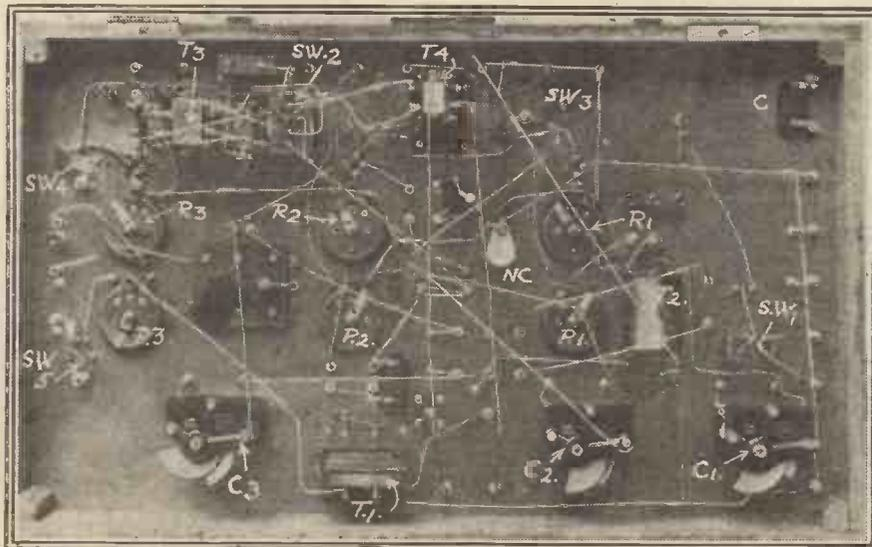

Fig. 7. A photograph of the interior of the set showing the disposition of the components and connections.
When the various components have been mounted, the wiring should be proceeded with. Nothing less than No. 18 S.W.G. should be used. The writer's set was wired with No. 14 S.W.G. in some parts, while No. 16 S.W.G. was used in others. Round section wire was used throughout. The L.T. circuits should be wired up first, the wiring being run close to the panel. When the rheostats, potentiometers, and filament legs of valve holders have been wired, then commence with the aerial circuit. Looking at Fig. 7, this is the right-hand side of the photo.
The usual rules about keeping all grid and plate leads as short as possible, and well spaced from each other, should be adhered to. The "backing piece" of thick ebonite which can be seen in Fig. 7 (underneath the crystal detector), situated centrally between R2, R3, P2, and P3, was placed in position solely to give rigidity to the crystal detector. It is bolted to the panel in six places, and, in the writer's case, is more of a necessity than a luxury. The panel, being so large and of 1/4 in. ebonite (1/16 in. would have been preferable), tends to give a little, and when using C3 it was noticed that the crystal developed a "rustle," or slight rushing noise, due to the adjustment being slightly variable.
1. The condenser (fixed) C, in Fig. 7, has been replaced by a .001 mfd. variable condenser (as shown in Fig. 1).